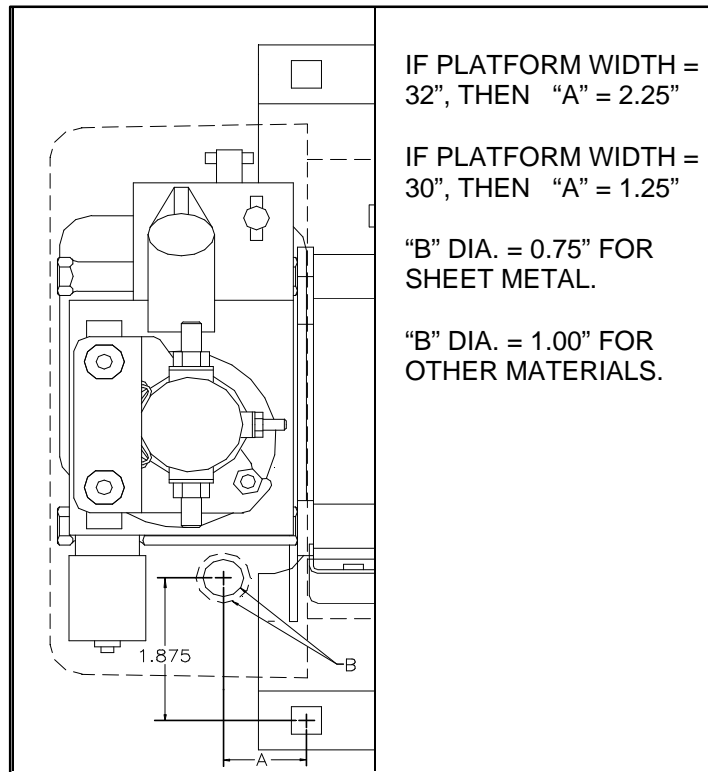

FIGURE 2-10: POWER CABLE ACCESS HOLE
- a. Refer to **Figure 2-10**. Locate and drill a hole through vehicle floor near or under pump cover so power cable may reach positive pole of solenoid, the side opposite to where solenoid is connected to pump motor. The hole should be drilled so that it will be hidden by pump cover.